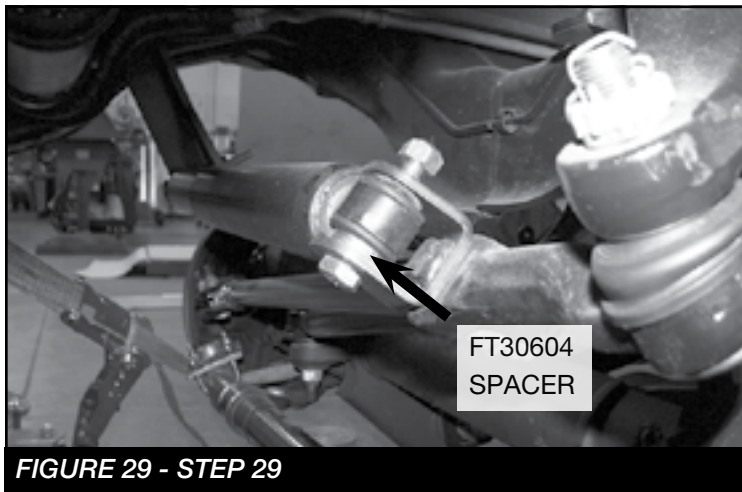

FIGURE 27 - STEP 27
27. **(PASSENGER SIDE)** Install FT30660 (Brake line bracket) to the factory brake line tab using the supplied 3/8" hardware (Use lower hole). Next, using the supplied rubber clamp and 1/4" hardware, attach the ABS line to the upper hole on the FT30660 bracket. Re attach to the frame using the factory hardware. Torque 3/8" & factory hardware to 52 ft-lbs. Torque 1/4" hardware to 14 ft-lbs. **SEE FIGURE 27**